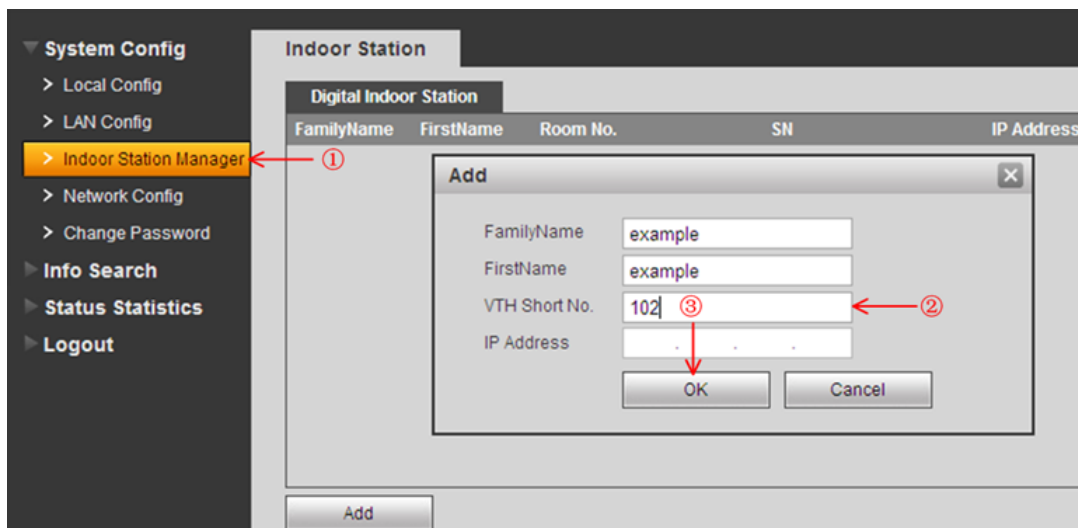
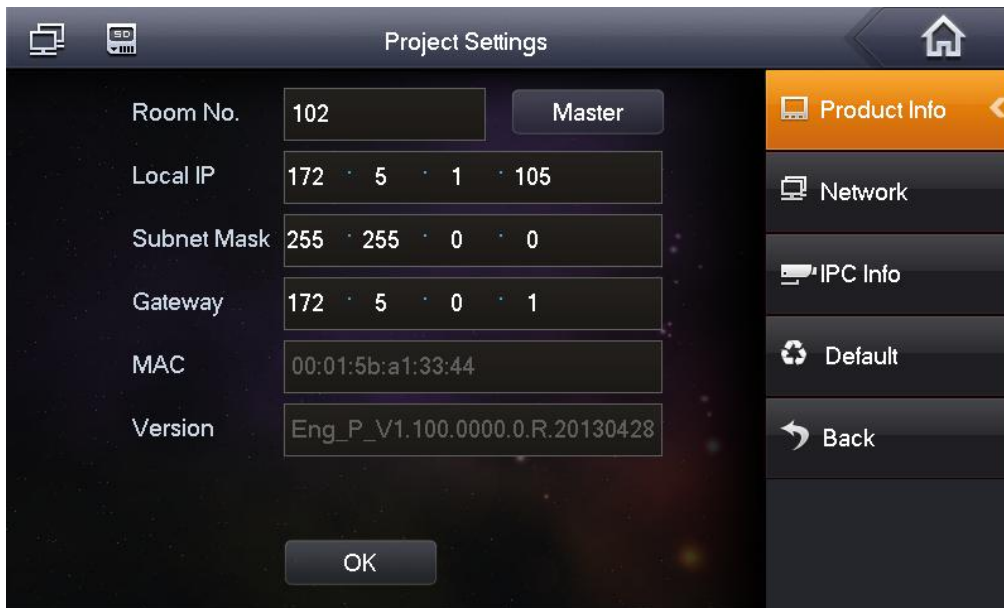

Figure 2-3
Figure 2-4
Step 2 Check Indoor Station Manager, click on Add to add one VTH Short No., such as: 102. See Figure 2-3.
Step 1 Check Product Info, set Room No.(it needs to be same with the VTH short No. in Figure 2-3), Local IP, Subnet Mask, Gateway, then point OK to save it . See Figure 2-4.